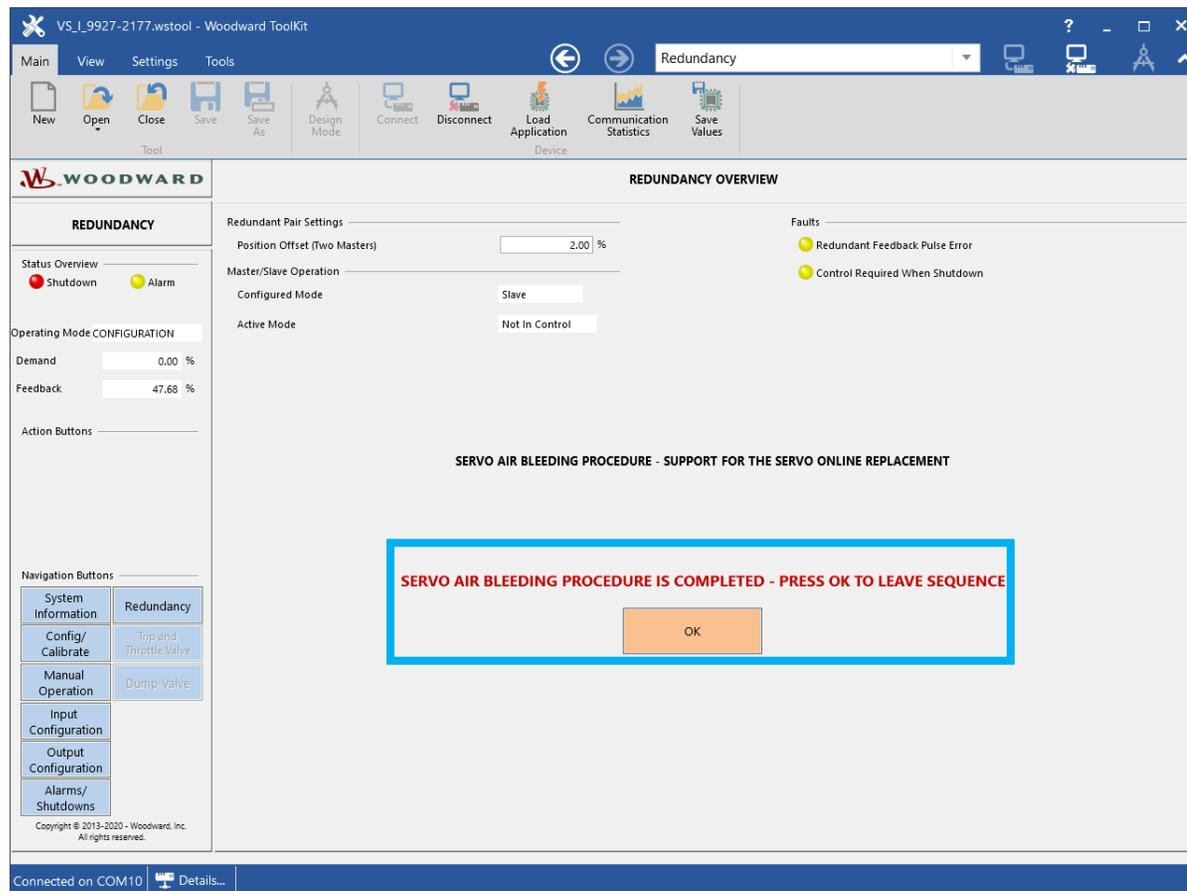

Figure 2-69. Servo Air Bleeding Completed
46. Confirm the “Servo Air Bleeding Procedure is Completed” in the Customer Service Tool (Figure 2-69) [notate the result in Checklist: ID #5].